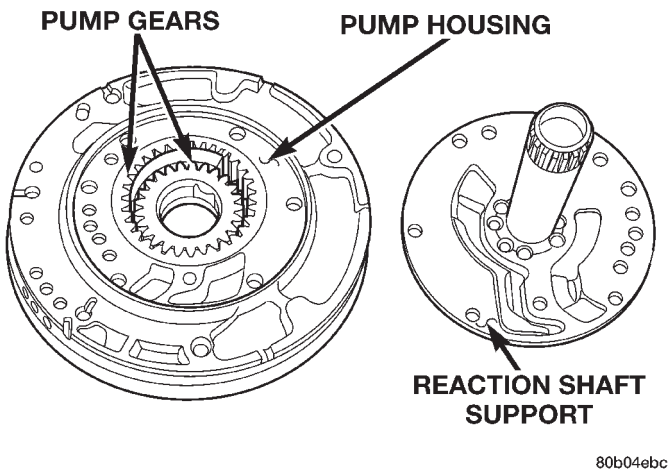

Fig. 99 Reaction Shaft Support
- (1) Remove the reaction shaft support bolts.
- (2) Remove reaction shaft support from pump housing (Fig. 99).